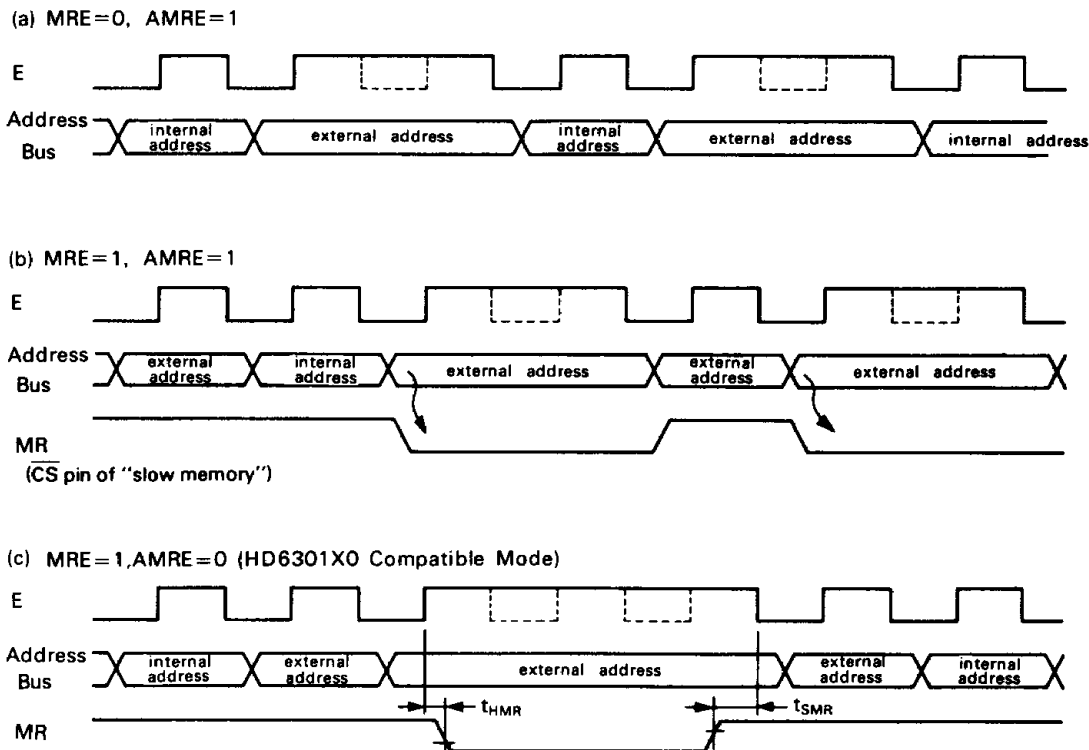

Figure 17 Memory Ready Timing
When the bit is set and the CPU accesses the external address, "memory ready" operates automatically and stretches the E clock's "High" duration for one system clock. When MRE bit of bit 2 is cleared and when the CPU accesses the external address space, the function operates. When MRE bit is set and then the CPU accesses the external address space with P52(MR) pin in "low", "memory ready" operates automatically. In Mode 3, regardless of the bit value, the "auto memory ready" function is inhibited. (See Table 3 and Fig. 17.)